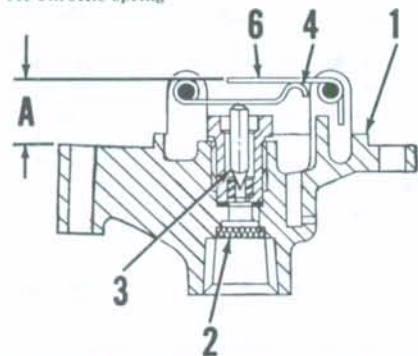

Fig. M1-2—Schematic view of float mechanism. Refer to text for method of adjustment.
To adjust the fuel level, remove bowl cover (1) and refer to Fig. M1-2. Invert the cover and measure distance (A) between primary lever (6) and gasket surface of bowl cover with inlet valve (3) closed. This distance should be 3/32 inch; if it is not, bend the curved tang on secondary lever (4) until correct measurement is obtained. After ad-